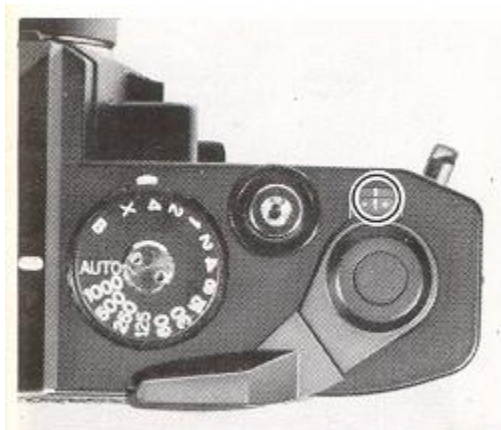

Fig. 9
8. Advance Film Advance Lever (13) two or three times, after depressing Shutter Release Button (11) each time, until the number "1" is opposite the index line in Exposure Counter (14) (Fig. 9), because the first portions of the film can not be used for picture taking as they have already been exposed to light and two or three blank exposures should be made before taking your first picture. Now it is ready for your first picture.